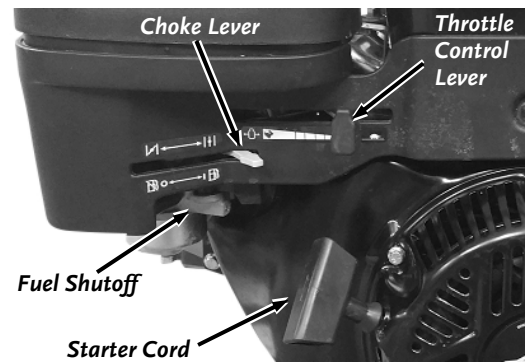

Figure 26
1. Ensure that the Fuel Shut-Off is in the “ON” position to the right (**Figure 26**).
1. Ensure that the Fuel Shut-Off is in the “ON” position (**Figure 26**).
5. As the engine warms up, slowly adjust the Choke to the “Run” position (**Figure 26**). Wait until the engine runs smoothly before each Choke adjustment.